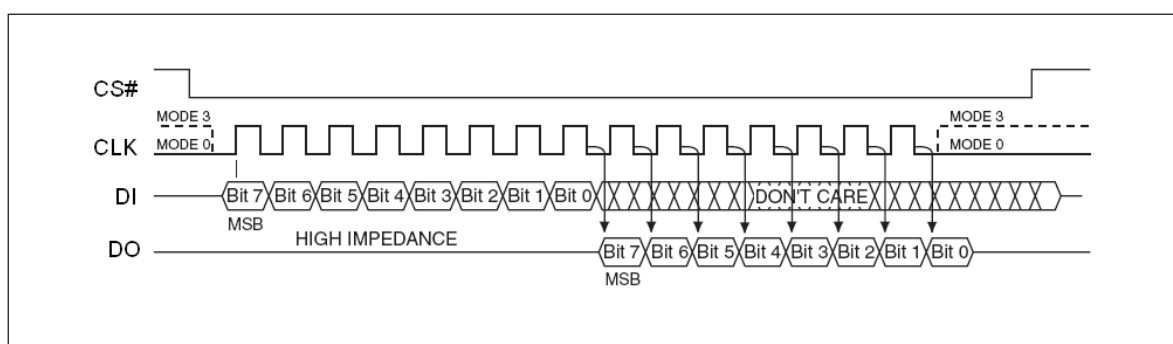

Figure 3. SPI Modes
The device is accessed through an SPI compatible bus consisting of four signals: Serial Clock (CLK), Chip Select (CS#), Serial Data Input (DI) and Serial Data Output (DO). Both SPI bus operation Modes 0 (0, 0) and 3 (1, 1) are supported. The primary difference between Mode 0 and Mode 3, as shown in Figure 3, concerns the normal state of the CLK signal when the SPI bus master is in standby and data is not being transferred to the Serial Flash. For Mode 0 the CLK signal is normally low. For Mode 3 the CLK signal is normally high. In either case data input on the DI pin is sampled on the rising edge of the CLK. Data output on the DO pin is clocked out on the falling edge of CLK.